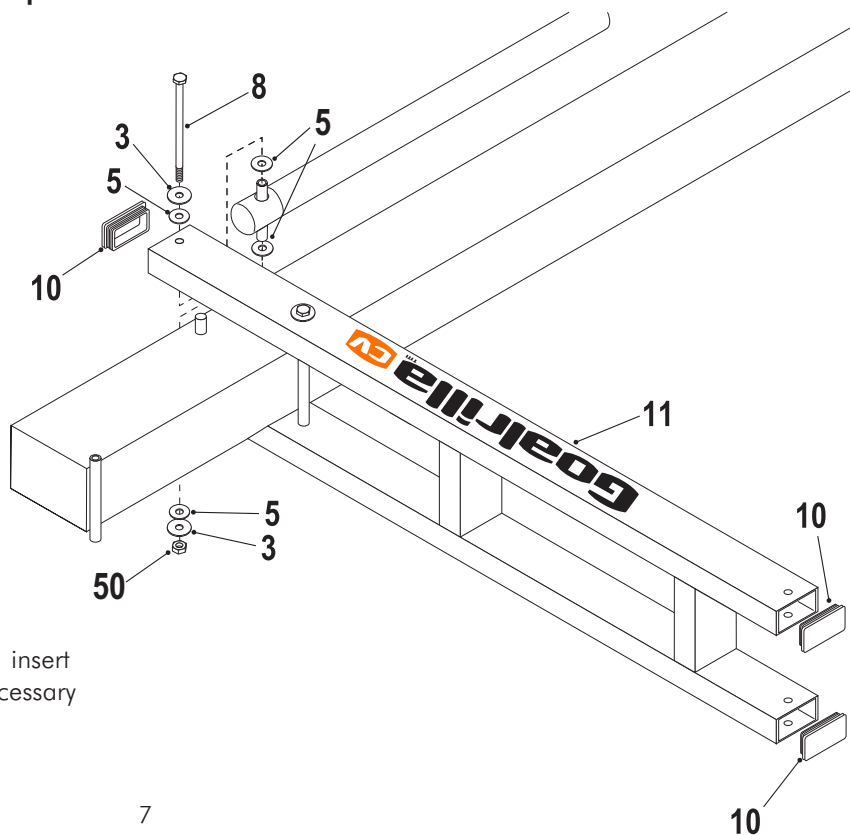

Figure 6
6. Secure Actuator (#16) to Lower Arm (#11) using one bolt (#8), two flatwashers (#3), four plastic washers (#5) and one thin locknut (#50). See Figure 6. Tighten both bolts (#8) **snug but, do not over tighten. Board Arms must pivot freely.**